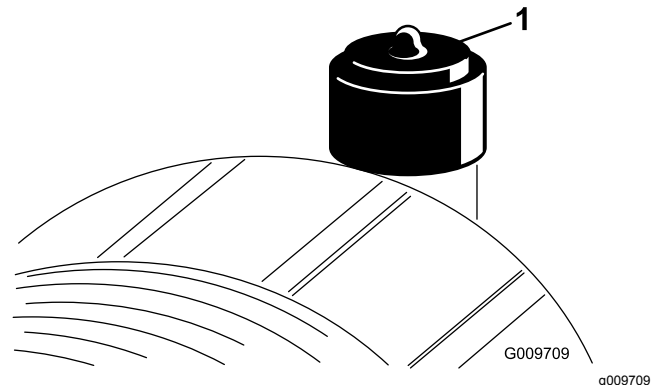

Figure 73
Service the air-cleaner filter only when the service indicator requires it (Figure 73). Changing the air filter before it is necessary only increases the chance of dirt entering the engine when you remove the filter.
2. Reset the indicator (Figure 73) if it shows red.